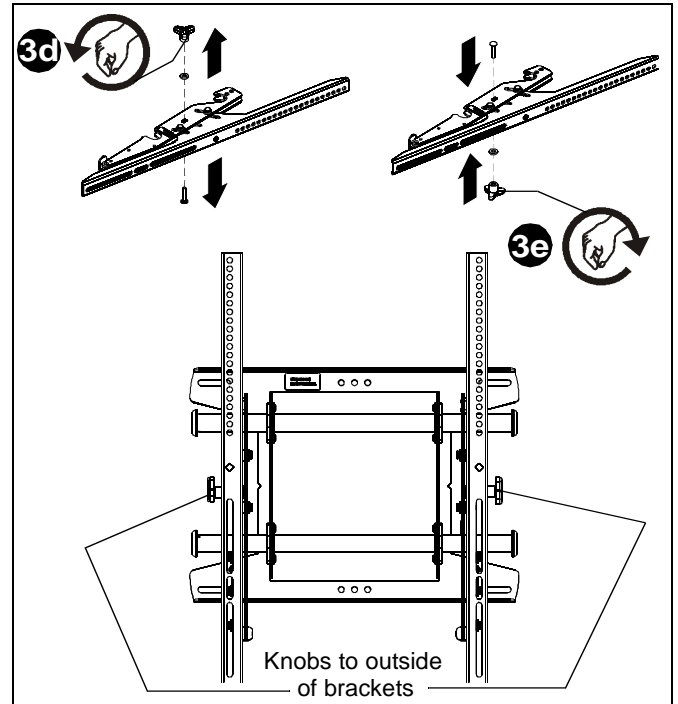

Figure 7
3. If necessary, the tilt upright bracket knobs may be switched to allow the brackets to be reversed. (See Figure 7)